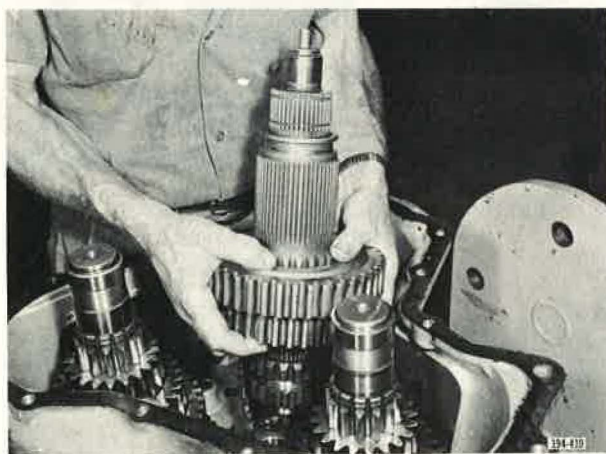

Figure 48. Installing Front Mainshaft Assembly
11. Carefully install mainshaft assembly as shown in Figure 48. Advance mainshaft all the way forward to completely seat the spigot bearing in the main drive pinion.